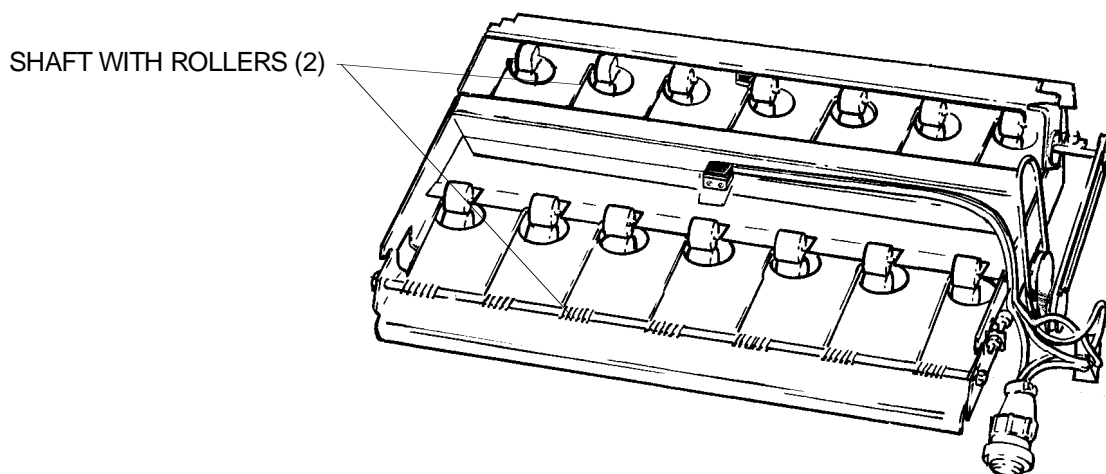

figure 14
- 24.** Remove both SHAFTS with ROLLERS. See figure 14.